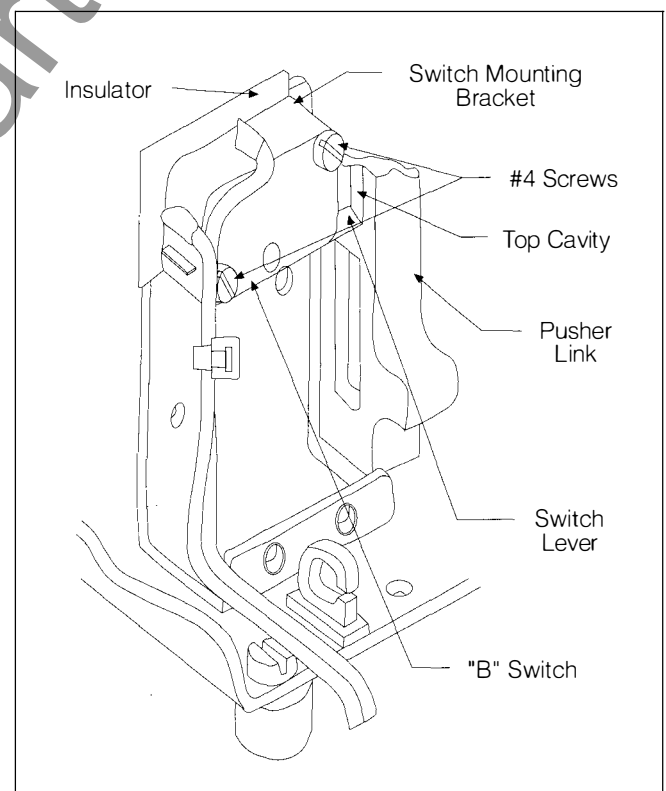

Figure 4. "B" Switch Mounting
- 9.) To mount the "B" switch, first make sure that the switch lever is inside the top cavity of the pusher link (See Figure 4).
- 10.) Make sure that the switch lever rests on the pusher link when the breaker main contacts are open (See Figure 4). Place insulator between "B" switch and bracket. Secure that "B" Switch with the (2) #4 screws provided
- 12.) Connect wire marked RC from "B" switch to solenoid connector. (See Figures 4 and 5). Connect wires marked LC-B together.